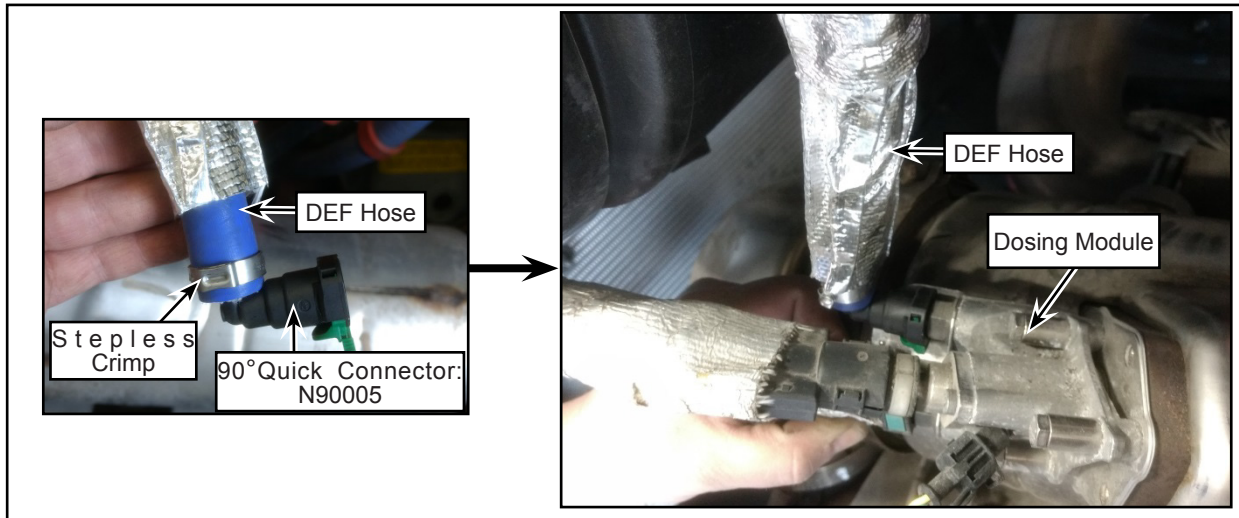

Figure 18 - Typical View of Quick Connector on Dosing Module
- 1.31. Insert 90° quick connector N90005 in DEF hose and install stepless crimp as shown (see Figure 18).
- 1.32. Fix the 90° quick connector on the dosing module (see Figure 18).